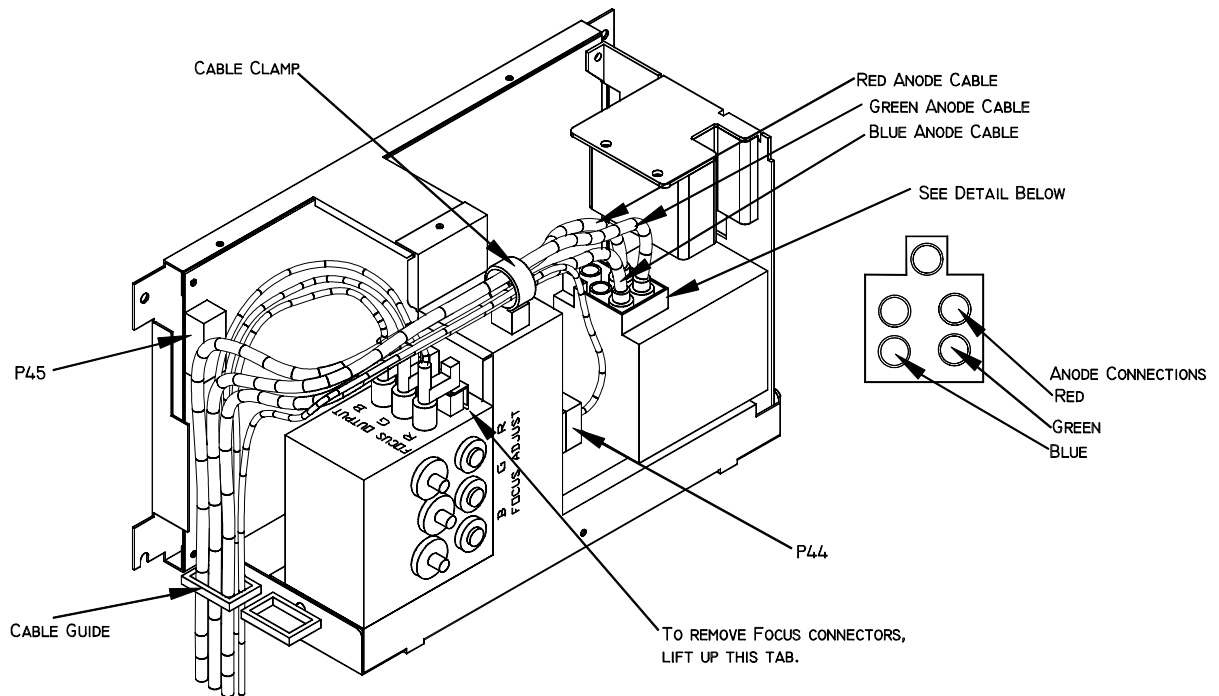

Figure 4-8 High Voltage Power Supply.
NOTE: For the remainder of this procedure refer to Figure 4-8 above.
9. Disconnect and label the 3 Focus cables. The square tabs on these cables (see Figure 4-8) may have to be lifted up by gently prying with a flathead screwdriver.